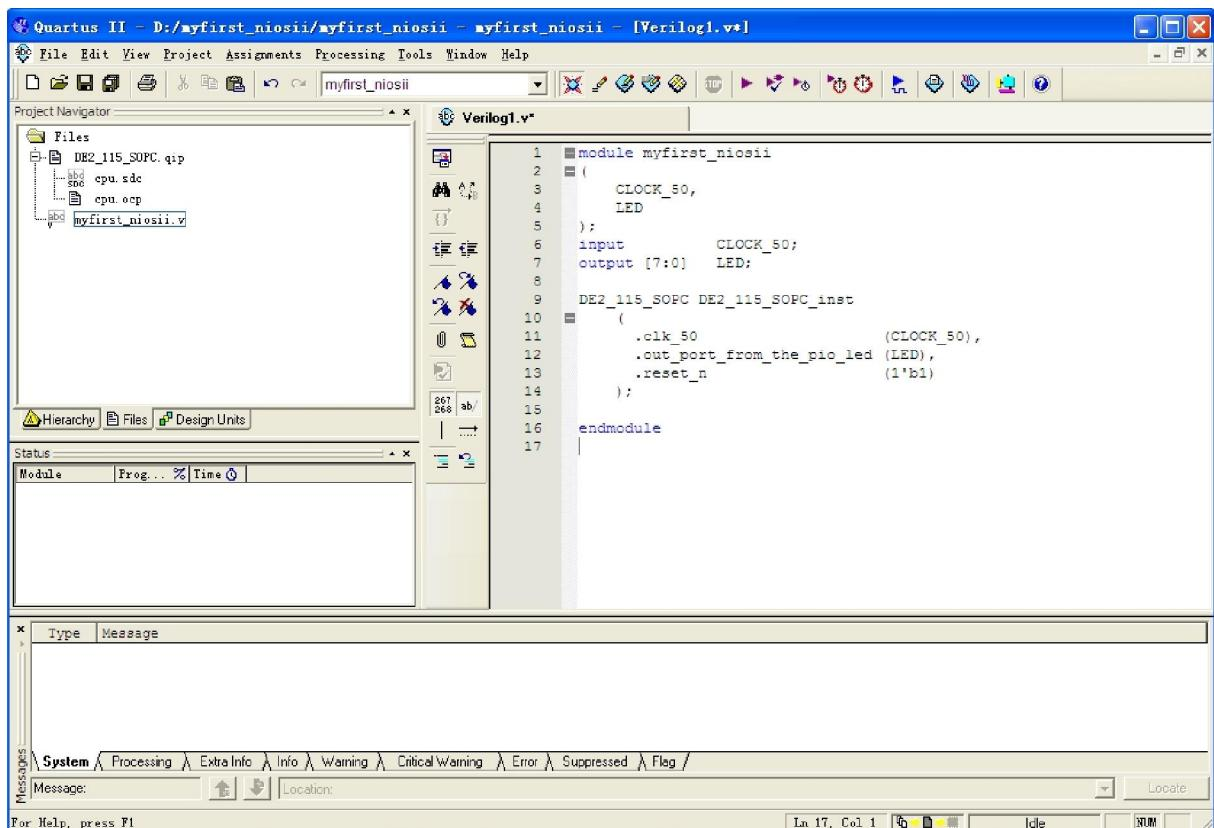

Figure 1-43 Input verilog Text
34. Type verilog the following script as shown in Figure 1-43. The module **DE2_115_SOPC** of the code is